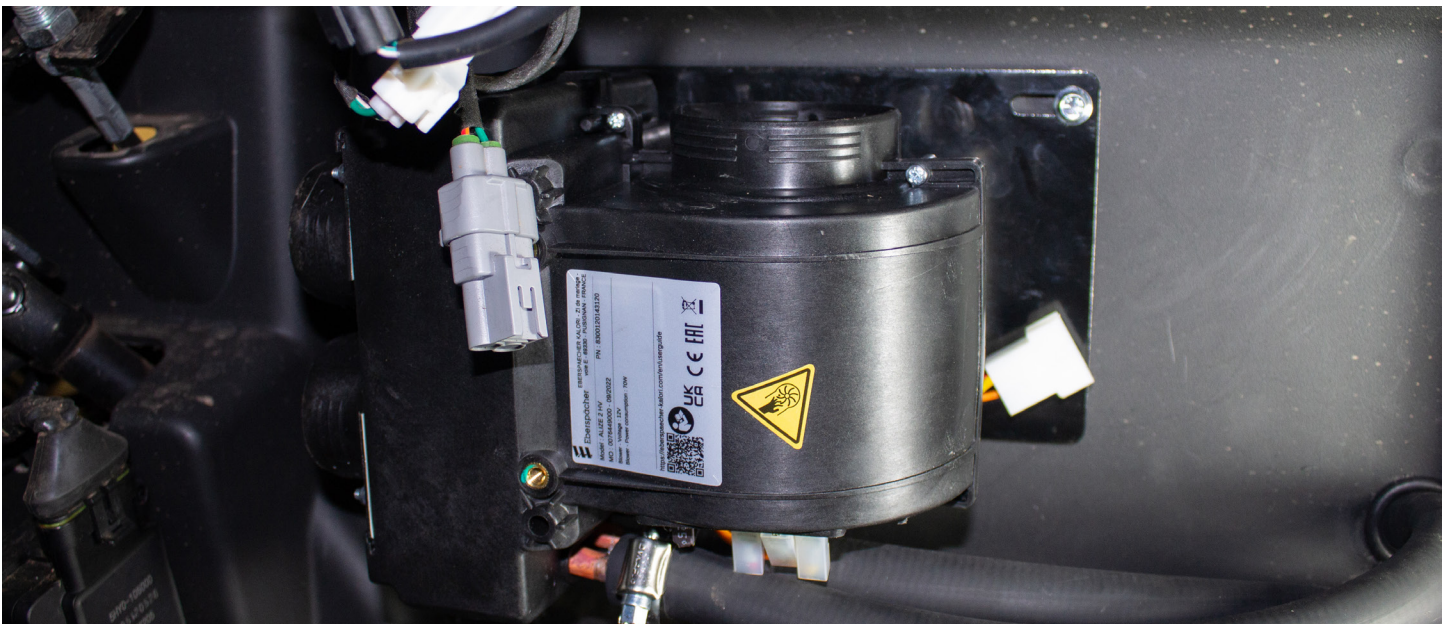

FIGURE 5
20. Secure the heater unit to the heater bracket using the M6 hardware. *FIGURE 5*